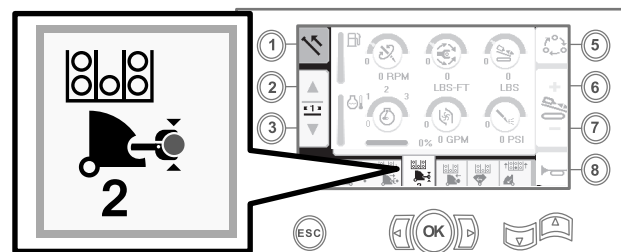

Figure 10
4. Release the rocker switch to proceed to the next step in the sequence (Figure 10).